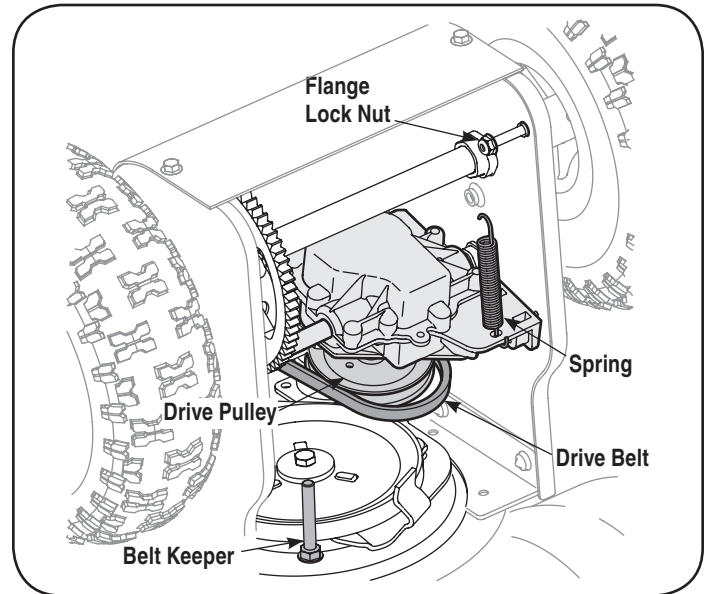

Figure 20
1. Tip the snow thrower up and forward so that it rests on the auger housing. Remove the belt keeper as called out in Figure 20. Return the snow thrower to its upright position to complete the following steps.
5. If the drive belt is not being replaced, install new auger belt and re-install belt cover and belt keeper shown in Figure 20.
2. Remove the spring that connects the transmission to a bolt on the engine frame. See Figure 20.